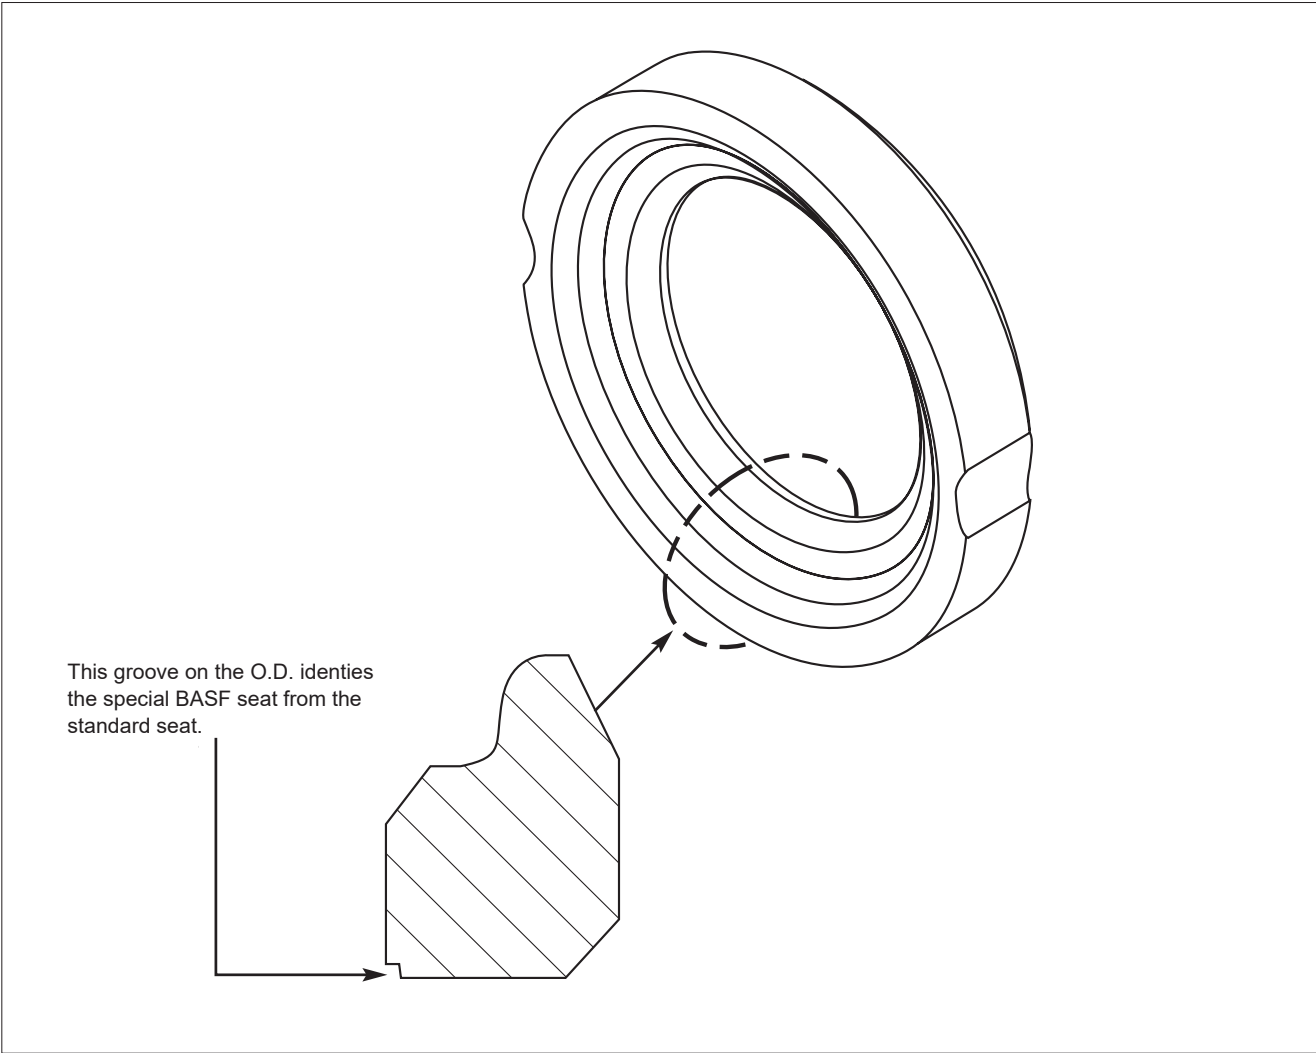

Figure 1.
- c. From Figure 1, the ballooned part number, part name and quantity required.